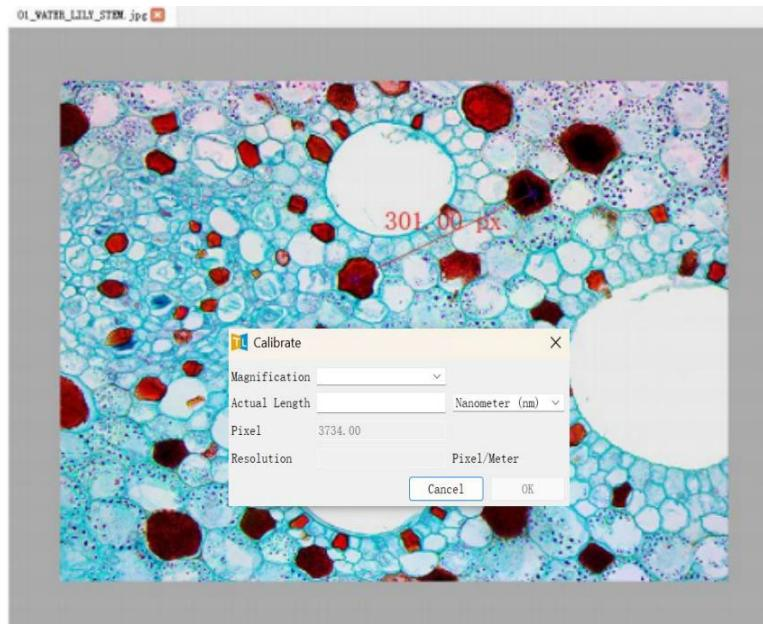

Figure 6-6 Example of Calibration Interface
- 2) When ALTRAvie LITE enters the calibration mode, the video/image window displays the calibration line and calibration window, as shown in Figure 6-6. The software will display the pixel value occupied by the calibration line;